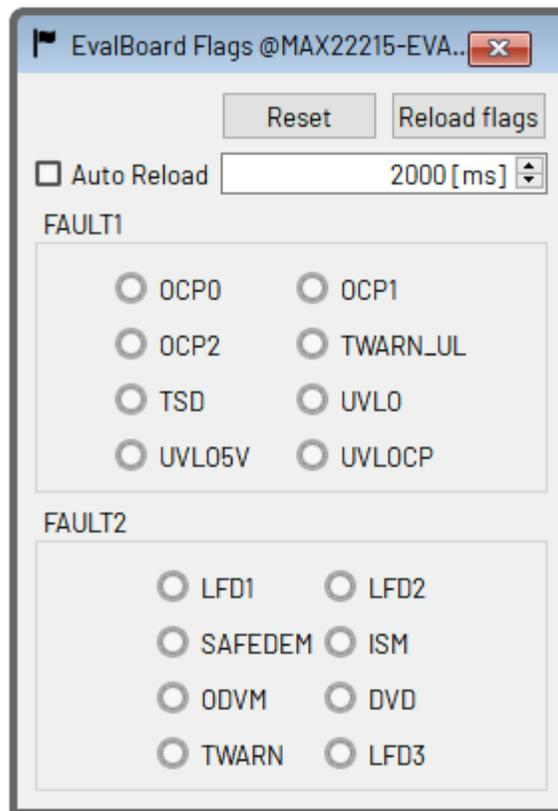

Figure 3. MAX22215 EvalBoard Flags
9. **EvalBoard Flags** (Figure 3): Another step for using the MAX22215 is to check the faults. At startup, the **EvalBoard Flags** window shows the **UVLO** flag, as the MAX22215 went through a power cycle. The flags can be cleared by pressing **Reset** button. It is also recommended to have **Auto Reload** active by checking its box, so real-time updates of the MAX22215 faults can be seen.